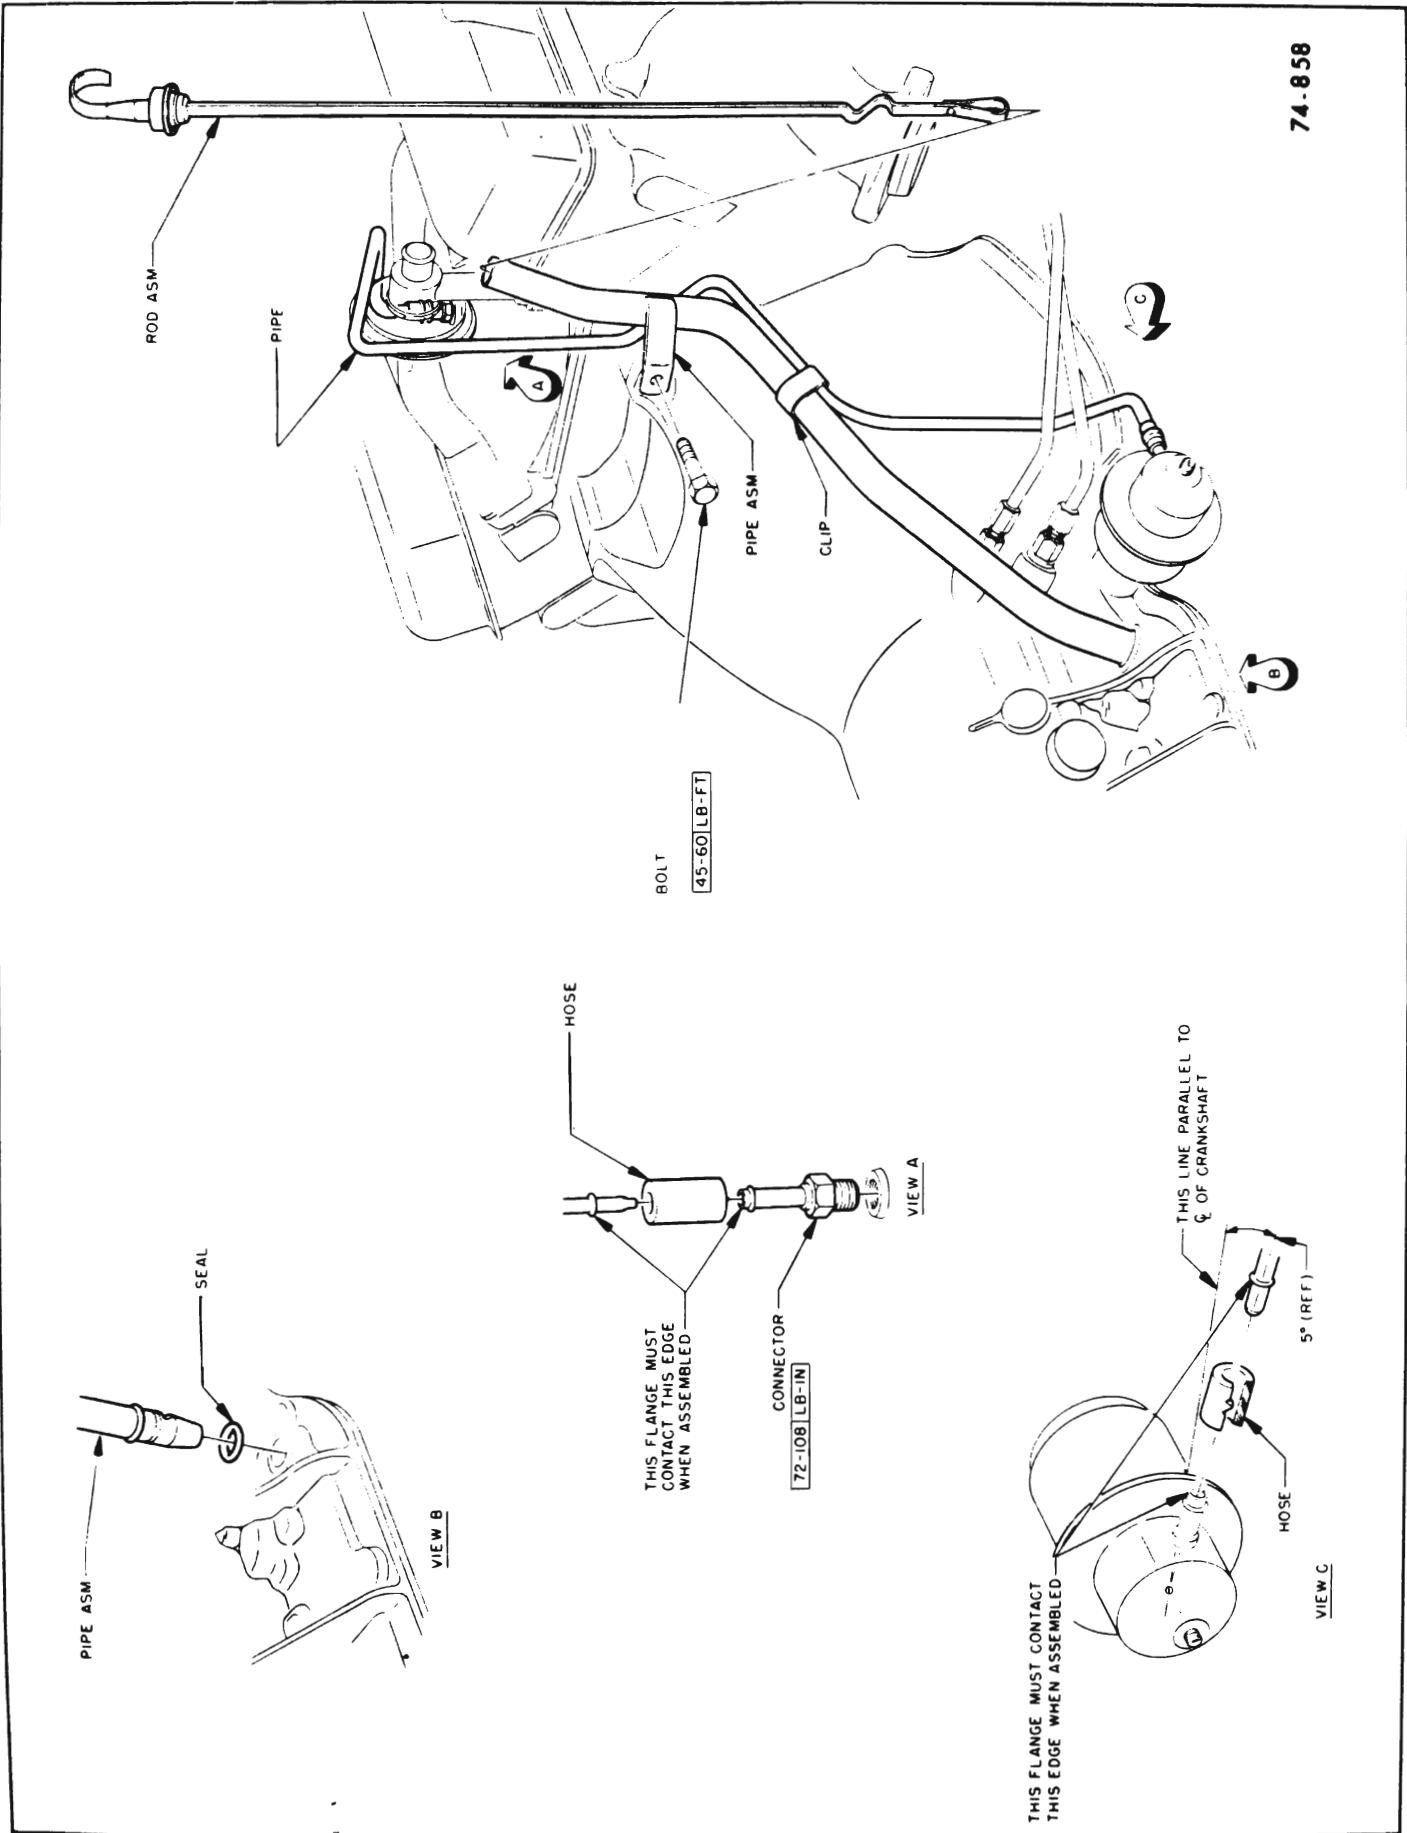

Figure 76-502 - Vacuum Modulator Line and Dipstick
5. Remove vacuum line from vacuum modulator. See Figure 76-502.